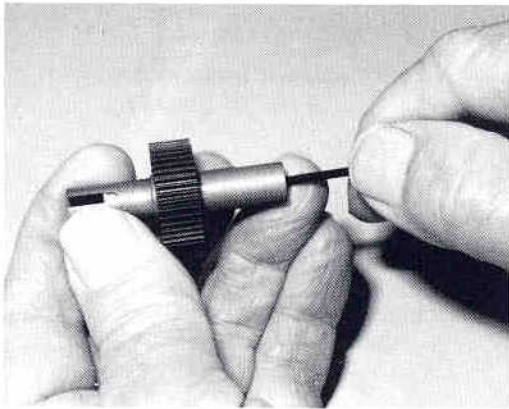

**Fig. 46**
□ **Figs. 46, 65 & 66** (1) Remove one #7666 diff drive ring from bag A. Remove your 5/32" x 5/16" #6589 bearing or #6597 bushing and install it into the right outdrive hub. (2) Add a light coat of #6591 diff lube to right hub where shown. (3) Place a #7666 dif drive ring and then the gear assembly on the hub. (4) Add a light coat of #6951 diff lube to left hub where shown. (5) Place a #7666 dif drive ring on the hub. (6) Push the #7668 left hub over the diff bolt and center the hub.